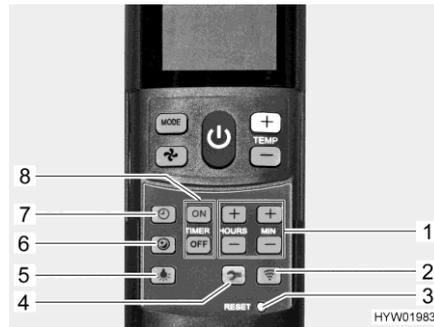

Fig. 248 Remote control with setting buttons (air conditioning unit)
Activating soft-start: ■ Press the soft-start button (Fig. 248,6). The fan then runs at low speed in cooling mode, which makes it especially quiet.
Setting the time: ■ Press the time button (Fig. 248,7).
■ Set the hours and minutes with the buttons (Fig. 248,1).
Programming the switching on time: ■ Press "ON" button (Fig. 248,8).
■ Press the buttons for setting the time (Fig. 248,1) until the desired time span until switch-on is reached.
■ Press "ON" button (Fig. 248,8).
Programming the switch-off time: ■ Press "OFF" button (Fig. 248,8).
■ Press the buttons for setting the time (Fig. 248,1) until the desired time span until switch-off is reached.
■ Press "OFF" button (Fig. 248,8).
Deactivating the timer: ■ Press the "ON" or "OFF" button (Fig. 248,8) again.
Switching on the lighting: ■ Press the light button (Fig. 248,5). The light is switched on at the last set dimming level.
Dimming the lighting: ■ Press the light button (Fig. 248,5) and keep it pressed until the desired brightness is reached.
Switching off the lighting: ■ Press the light button (Fig. 248,5).
- ▷ The Setup button (Fig. 248,4) is used to connect the remote control with the air conditioning unit during first set-up.